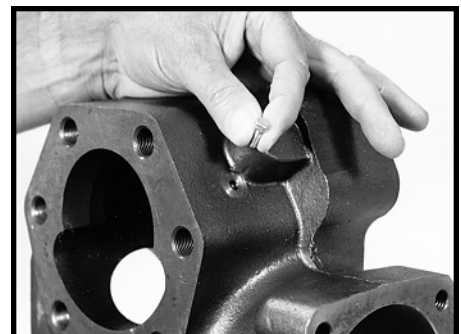

Figure 78
39. Your gear may be equipped with either a manual bleed screw (20A) or an automatic air bleed assembly (20B-E). If your gear has the manual bleed screw, remove it from the gear housing (20). A 5/16 inch socket required. SEE FIGURE 78. If your gear has the automatic air bleed assembly, it is usually not required that you service it. If it is necessary, however, remove the automatic bleed screw (20B) from the housing with a 1/2 inch socket or E-10 Torx socket. Then, tilt the housing upside down so that the special pin (20C) and spring (20D) will fall out. SEE FIGURE 79.